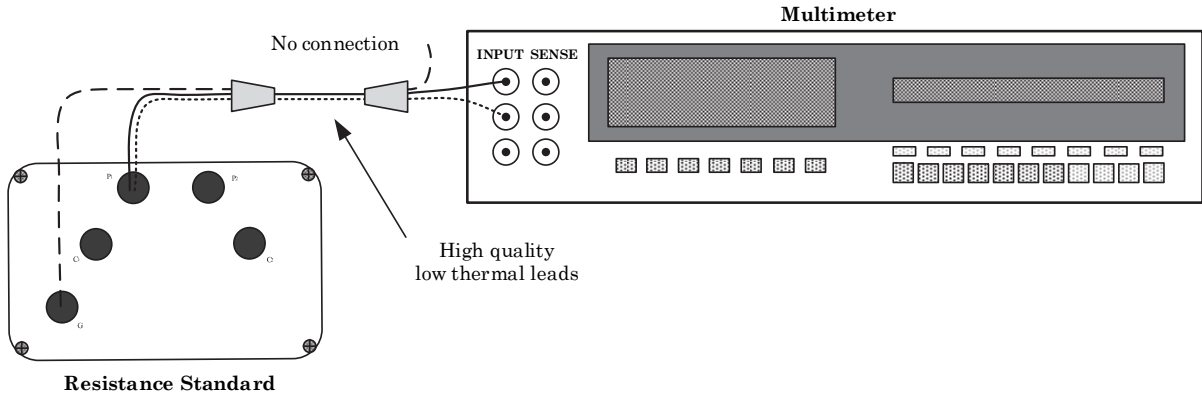

Figure 7. DCV Zeroing Connection.
(1) Ensure that table 7 is populated with the test report values of the resistance standards/shunt.
(2) Prepare multimeter for zeroing by shorting leads on a low thermal binding post such as that shown in figure 7.